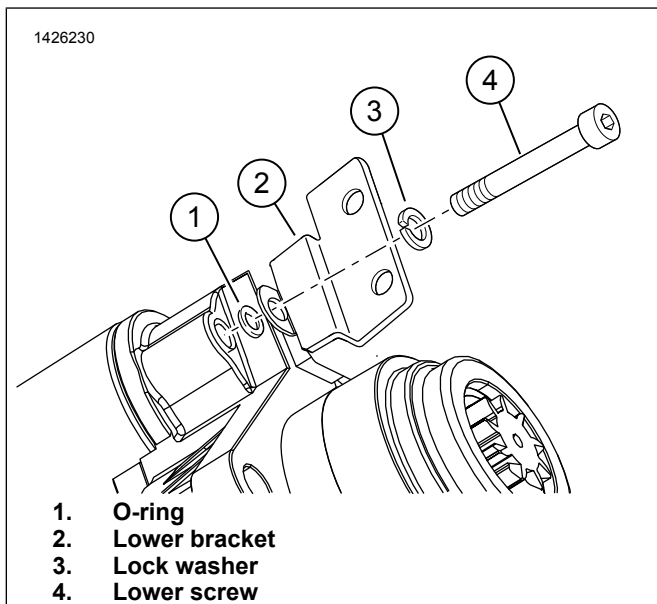

Figure 47. Contactor Z Lower Bracket
4. See Figure 47. Install O-ring (1).
5. Position lower bracket (2).
6. Move solenoid toward installed position and install lower screw (4) with lock washer (3). Tighten finger tight.